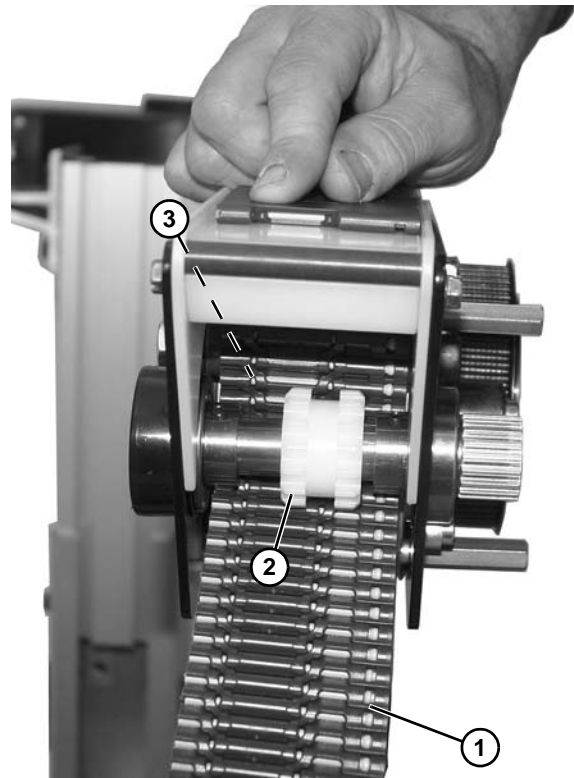

Figure 161
6. Guide belt (**Figure 161, item 1**) through idler assembly with belt routing under gear (**Figure 161, item 2**) and over wear tube (**Figure 161, item 3**).